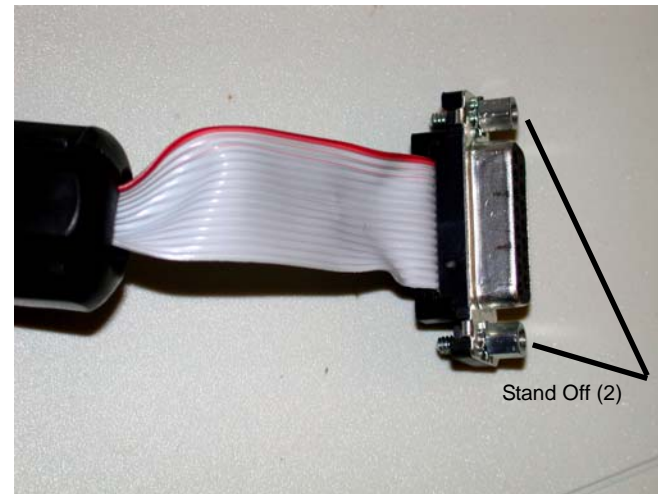

Figure 2 Connector Standoff
4. Remove the two (2) standoffs from the FDI Connector, then using the Standoffs, secure the FDI Connector to the Control Unit. Figure 2.